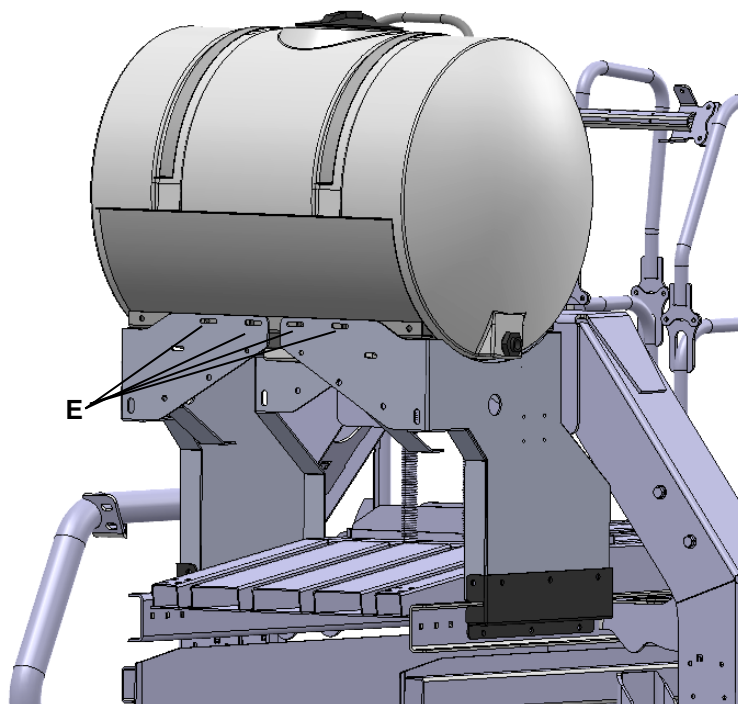

Figure 5
4. Once the tank legs and support brackets are in place, attach the tank and saddle assembly (001-6706A) to the legs with eight $\frac{3}{8}$ " x $1\frac{1}{4}$ " bolts, locks, and flat washers at point E in figure 5. For 3 x 3 balers the slots in the legs will attach to the second and fourth weld nuts in from each end, of the saddle, on both sides.